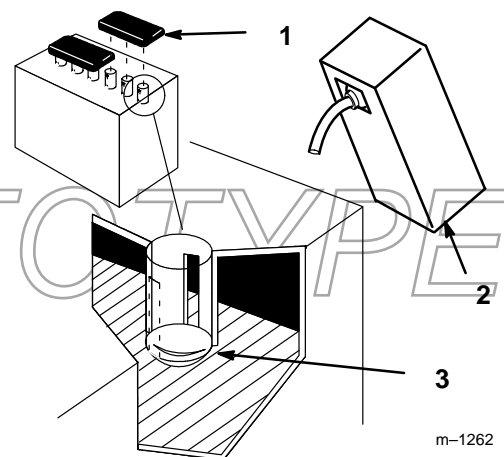

Figure 2
2. Remove filler caps from the battery. Slowly pour electrolyte into each cell until the electrolyte level is up to the lower part of the tube (Fig. 2).